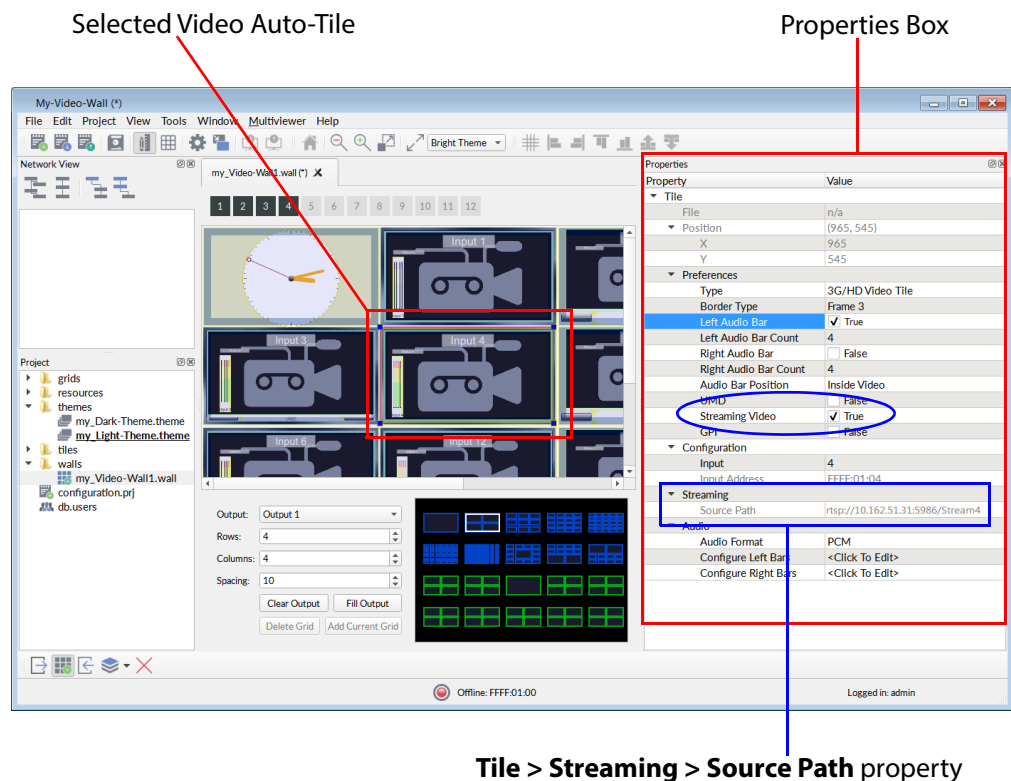

Fig. D-16: Selected Video Auto-Tile Properties
- 2 Open the required video wall and **single-click** on a video auto-tile. The video tile is selected and its properties are shown in the Properties box, on the right-hand side, see Figure D-16.
- 3 Select the **Tile > Preferences > Streaming Video** property. The **Tile > Streaming > Source Path** property is then shown in the Properties box, see Figure D-16.